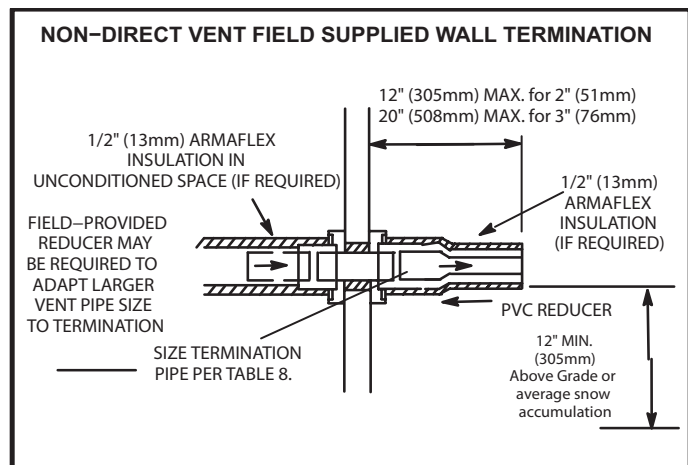

FIGURE 35
2. On field supplied terminations for side wall exit, exhaust piping may extend a maximum of 12 inches (305 mm) for 2" PVC and 20" (508 mm) for 3" (76 mm) PVC beyond the outside wall. See Figure 35.